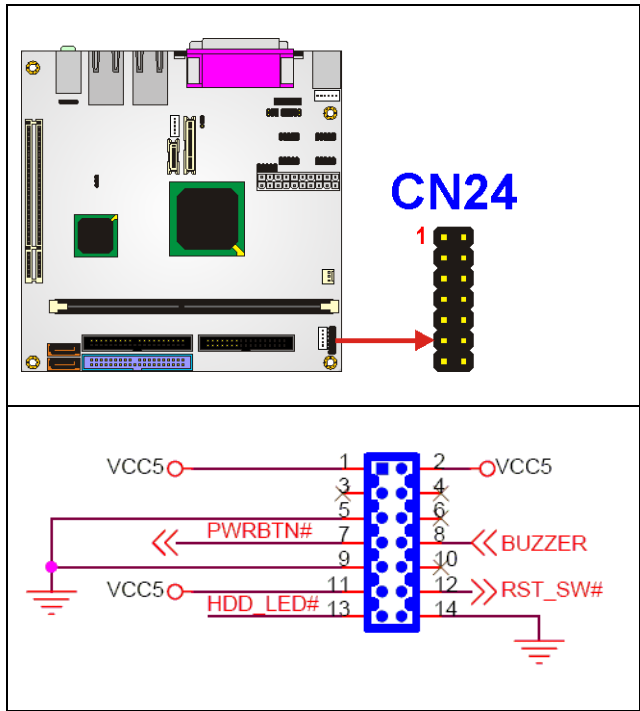

Figure 3-7: Front Panel Connector Pinout Locations
- CN Location: See **Figure 3-7**